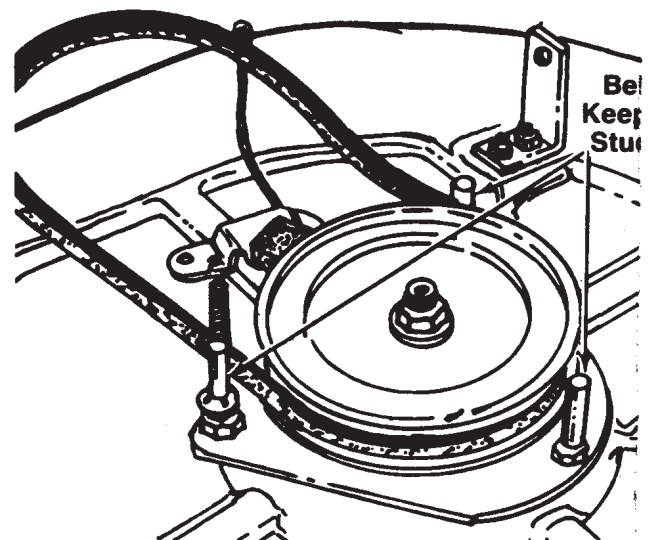

FIGURE 7.
- Remove the three belt keeper studs on the deck. See figure 7.